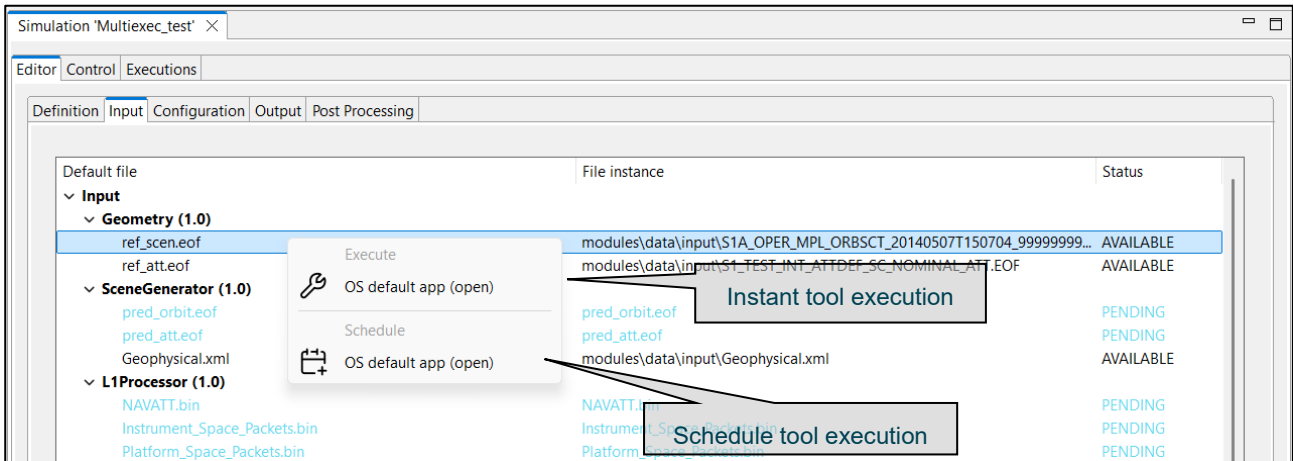

Figure 4-75: Tool Execution/Schedule from Simulation Edition View
- Tool execution from the simulation edit view and execution results view (see Figure 4-75). The execution view is the same as the simulation view with two particularities, 'Results' tab is enabled and the status is completed (successfully or not). Note that in the execution view the status of the output files is shown as Available if the simulation chain has been successfully executed while in the simulation editing the status is shown as Pending (see section 4.3.3.6.3).